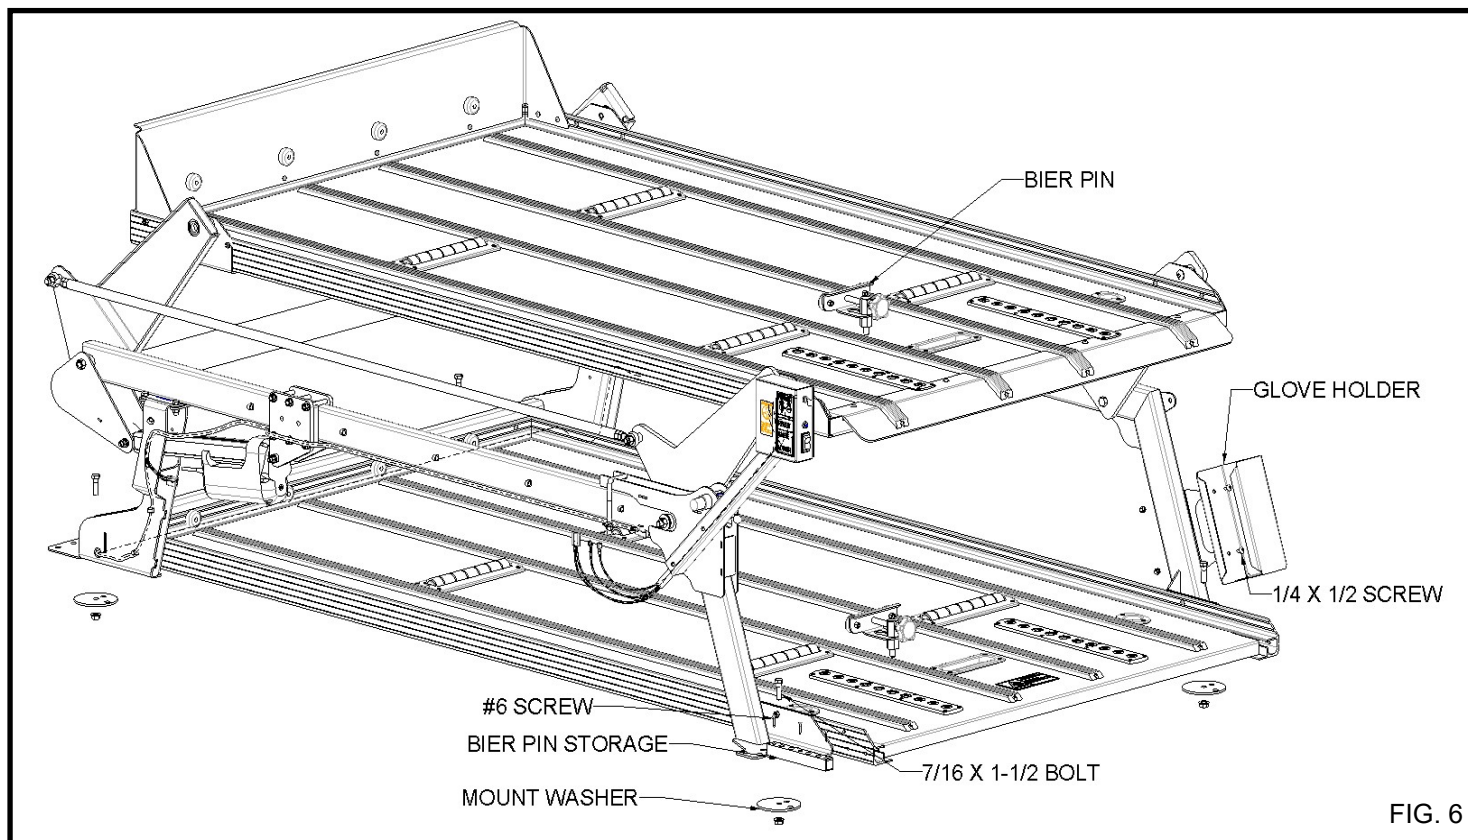

FIG. 6
Secure each mount using (3) #6 screws. (**FIG.6**)
6.22 Mount the glove holder on the passenger side frame weldment using (2) 1/4 X 1/2 machine screws and (2) 1/4 lock nuts.